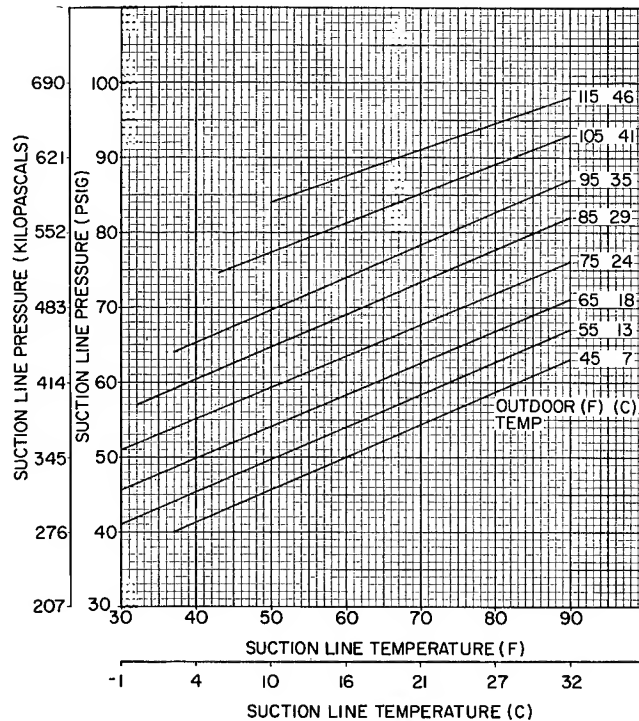

Fig. 16 — Cooling Charging Chart — 50PQ012
**LOW CHARGE COOLING** — Using appropriate cooling charging chart, Fig. 16 or 17, add refrigerant until conditions of the chart are met. Note that charging charts are different from ones normally used. Charts are based on charging units to correct superheat for various operating conditions. An accurate pressure gage and temperature sensing device are required. Connect pressure gage to service port on the suction line. Mount temperature sensing device on suction line and insulate it so that outdoor ambient temperature does not affect reading. Indoor air cfm must be within normal operating range of unit.
Example: Fig. 16 — 50-PQ012